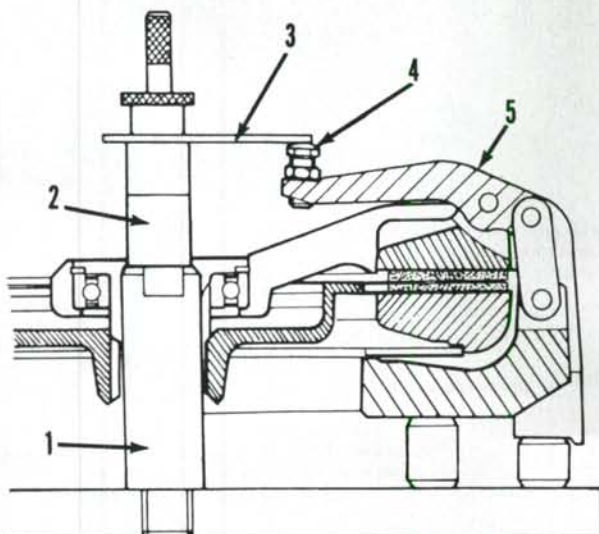

Fig. 171—Adjust pto release lever adjusting screws (4) until they just touch setting gage (3).
properly seated. Remove actuator and install center post 961845 into center adapter (1—Fig. 171). Install Code 4 spacer (2) and setting gage (3). Hold gage against spacer, then adjust each pto release lever adjusting screw (4) until screws just contact gage. Remove gage and spacer and install lever actuator and adapter plate. Actuate release levers several times, then recheck lever height and readjust if necessary. Remove gage, spacer, center post and adapter.